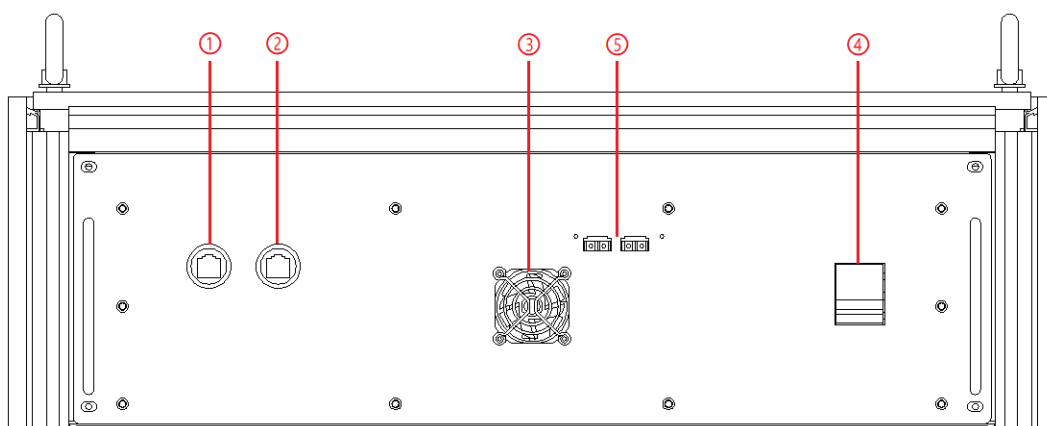

Figure 3-2 Control Modules
When the AC input side is powered on, open the cabinet door, close the power switch of the control module (Figure 3-2④), power on the control module.